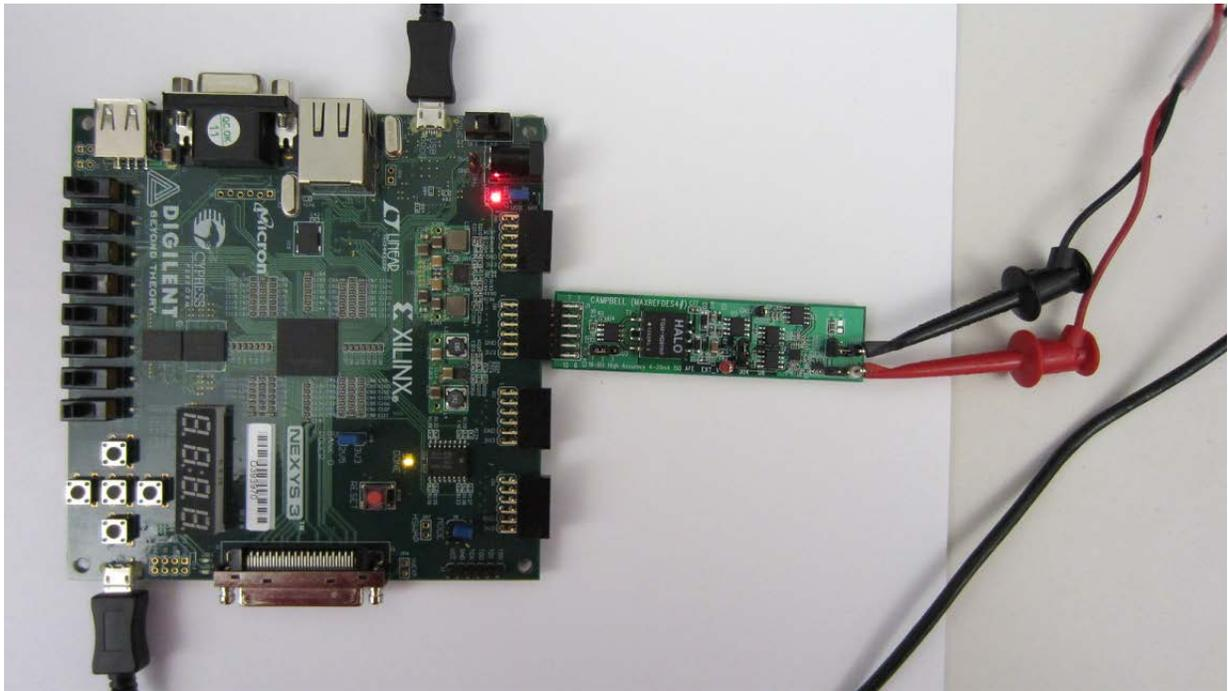
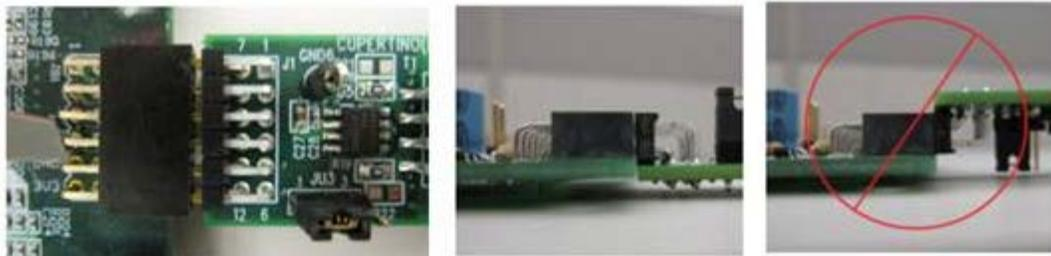

Figure 1. Campbell Board Connected to Nexys 3 Development Kit
Figure 2. Pmod™ Connector Alignment
- 1) Connect the Campbell board to the JB1 port of a Nexys 3 development kit as shown in Figure 1. Ensure the connector is aligned as shown in Figure 2.